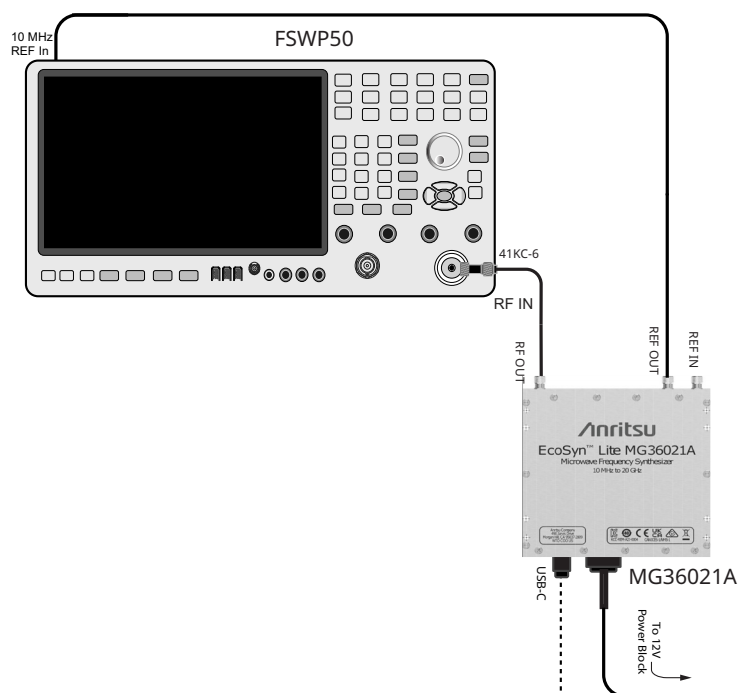

Figure 2-2. Phase Noise Measurement with MG36021A and FSWP26
- Connect the MG36021A as shown in Figure 2-2.